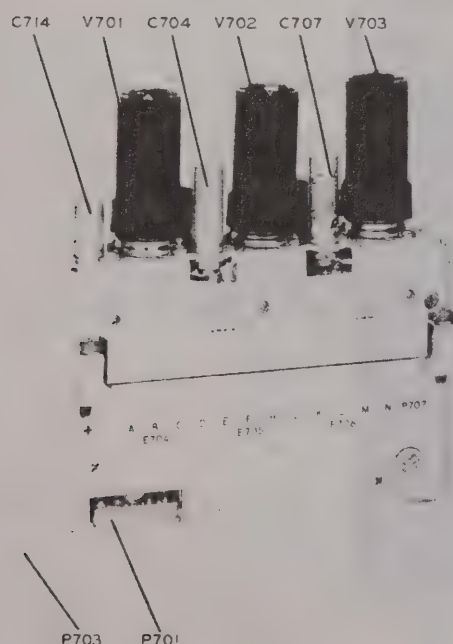

Figure 1-6. R-F Amplifier Subassembly, Right Side View
**1-22.** Figure 1-6 shows the r-f amplifier subassembly removed from the r-f and i-f tuner assembly. This subassembly consists of three tubes for r-f amplification and first mixing, and the associated circuits. Connectors P701 and P703 provide for interconnection with the other assemblies.